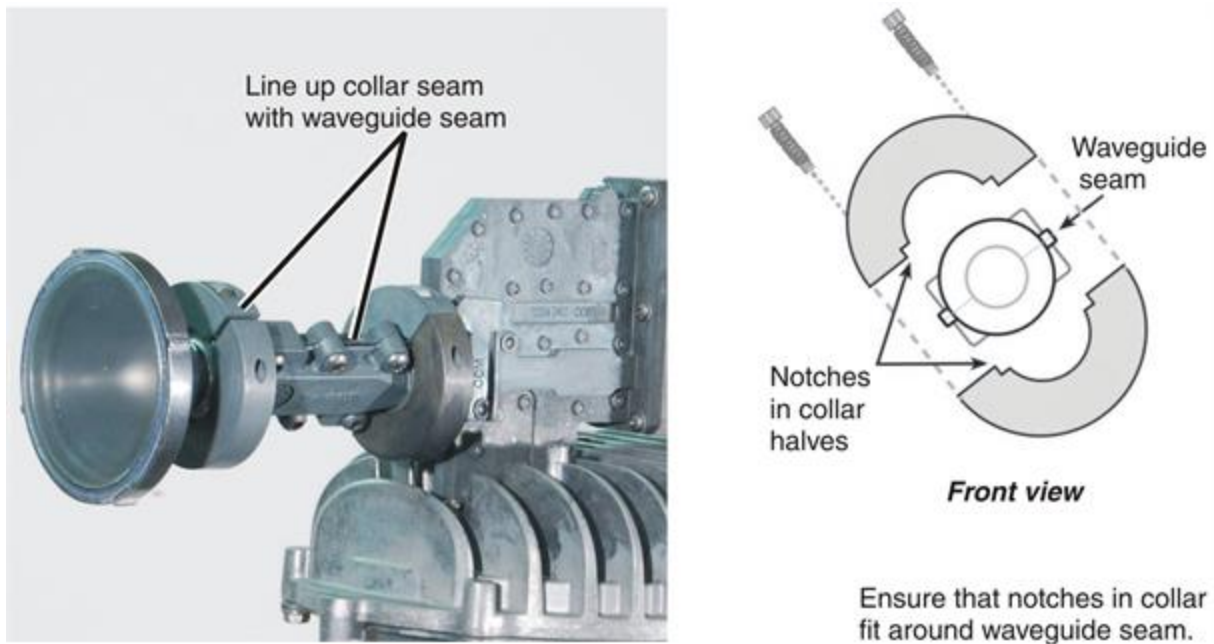

Figure 21: Attaching the feed horn clamp
4. Fit the two halves of the feed horn clamp around the ridge at the point where the feed horn meets the waveguide, as shown in Figure 21 on page 39. When properly aligned, the seam formed by the two halves of the clamp will line up with the seam on the waveguide.
You *must* assemble the collar exactly as described above and as shown in Figure 21 before tightening the hardware. Failure to do so will result in damage to the polarizer waveguide.